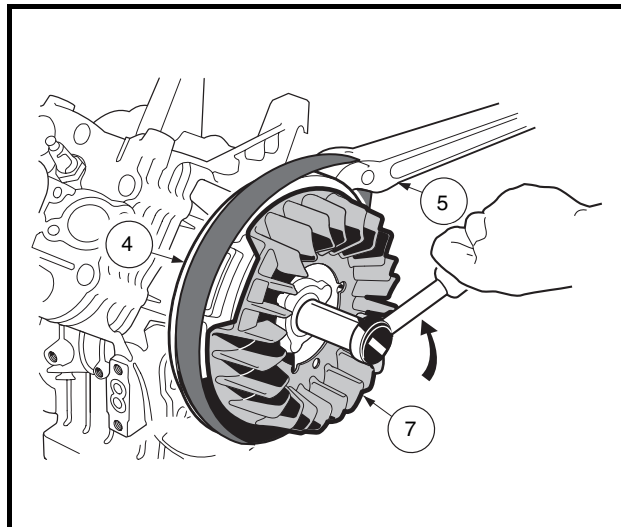

Figure 13-10 Flywheel Nut Removal
3. Hold the flywheel (4), not the fan (7), with a strap wrench (5) and, using a 25 mm socket, remove the flywheel nut (and flat washer) by turning it counterclockwise (**Figure 13-10, Page 13-8**). **See following CAUTION.**